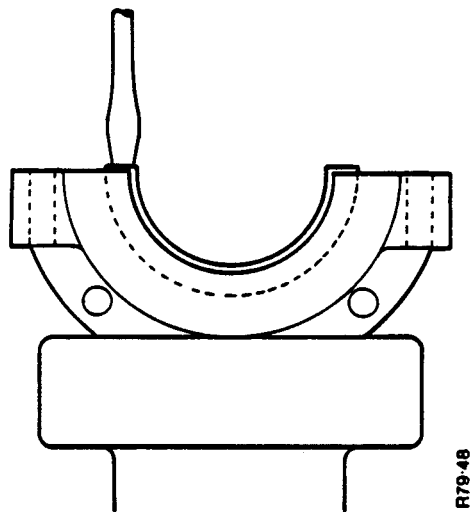

FIGURE 54 INSTALLING PACKING
5. Use a screwdriver blade that is not sharp to push the ends of the packing below the joint face of the retainer. See Figure 54.